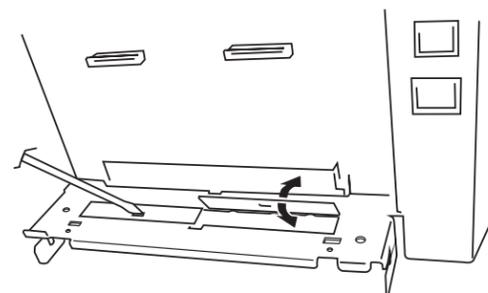

Figure 3.1 Remove blanking plates
2. Remove the two blanking plates (figure 3.1), using a screwdriver to bend them backwards and forwards, until they snap.